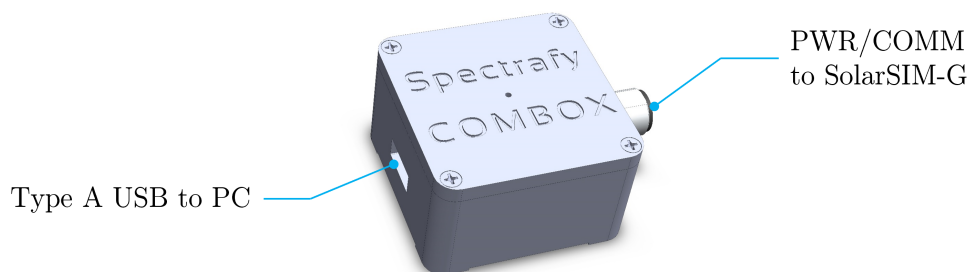

Figure 4: The COMBOX interfaces the SolarSIM-G to a PC.
Option 1 uses the SolarSIM Communication Box (COMBOX) - a seamless link between a PC and the SolarSIM-G, as shown in Figure 4. A standard 6 ft USB cable is connected from the COMBOX to a PC. On the other side, a 10 m RS-485 communication cable is connected from the COMBOX to the SolarSIM-G. This option is ideal for test sites and locations where one has the access to a personal computer (PC) or when quick, in-field spectral measurements are necessary with a laptop.